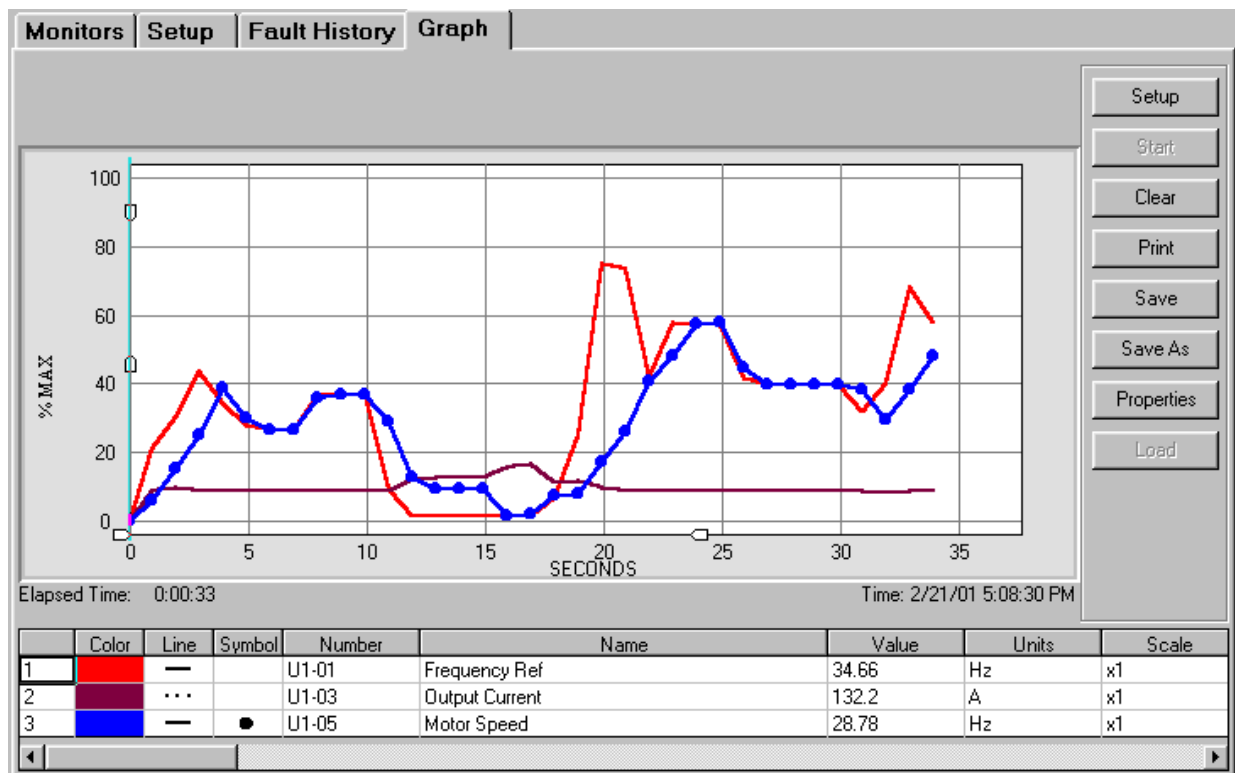
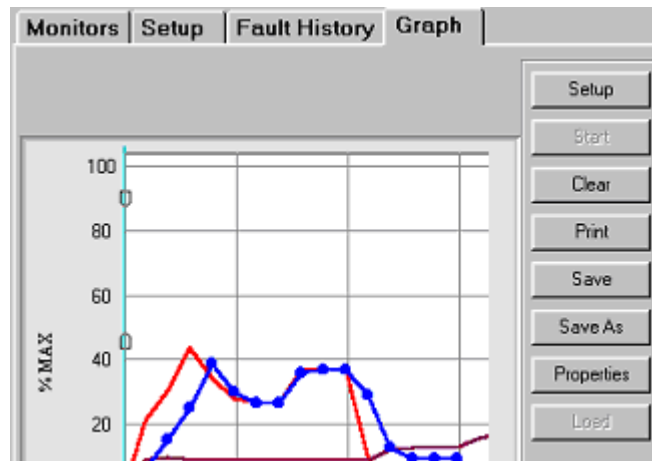

Figure 7.1: Sample of the Graphing Area
Figure 7.2: Graph Control Buttons
3. Click on the Graph Tab (**Graph**) in the monitor area to display the graphing area. A display similar to Figure 7.1 will appear. Before using the graphing function for the first time, the function must be setup. On the right side of the Graph tab you will see a row of buttons (Figure 7.2).